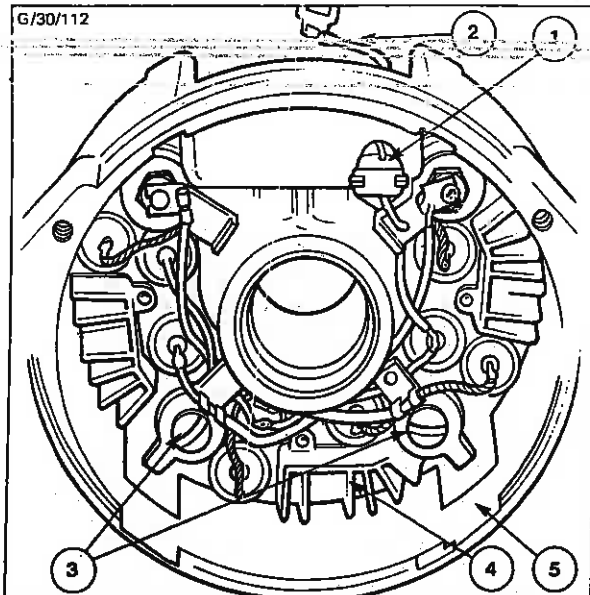

Fig. 73 - Removing Heat Sink Assembly
2. Working from the other side of the end shield, slide the 'A' lead grommet (1) out of its slot in the end shield and pull the lead (2) through the end shield - see Fig. 73.